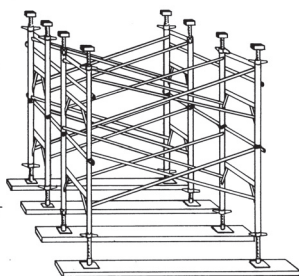

Figure 206
- If towers are to be tied together and braced horizontally, this should be done as work progresses (Figure 206).